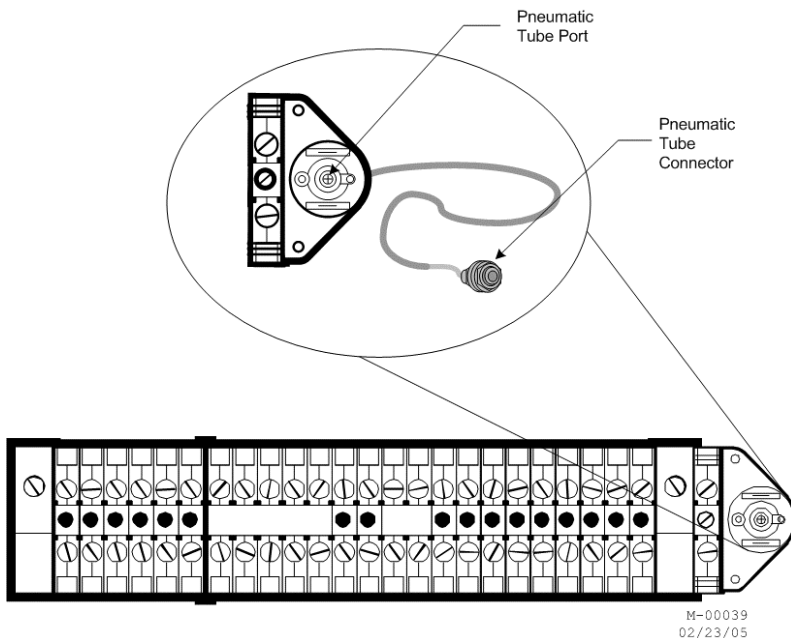

Figure 2-26: Pneumatic Tube Connection in Control Box
2. Connect the pneumatic tube to the press-in fitting within the Control Box. See Figure 2-26.